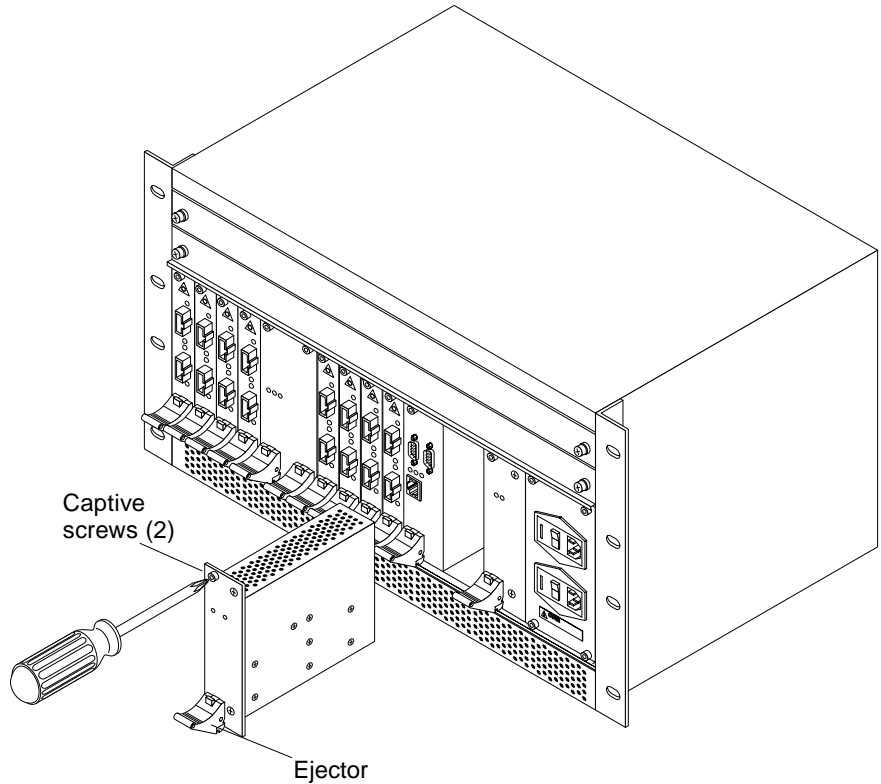

FIGURE 4-3 Replacing a Sun Fire Link Power Supply Module
3. **Loosen the captive screws at the top and bottom of the module (FIGURE 4-3).**
2. Unlock the module ejector by depressing the ejector red button (FIGURE 4-3).